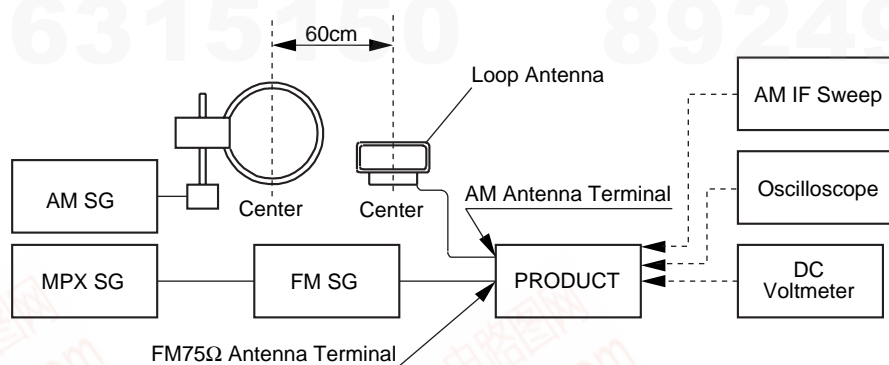

Fig.1 Adjustment Wiring Diagram
- Connect the wiring as shown in Fig. 1.